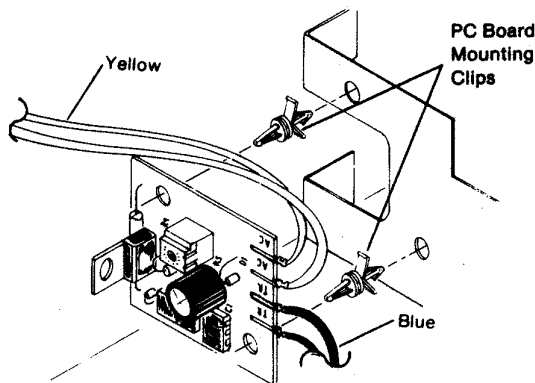
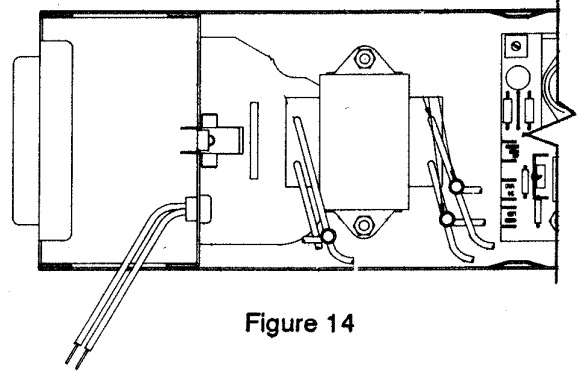

Figure 13
Figure 14
This electronic air cleaner has a **BUILT-IN AUTOMATIC AIR FLOW SENSOR**. The location of the air flow sensor is shown in Fig.13.
2. Wire unit to 120 volt, 60 Hertz, 1phase (or 240 volt, 50/60 Hertz, 1phase) supply. A field wiring compartment (with knock out holes) is located at the rear of the power pack assembly (Fig. 14). The electronic air flow sensor will automatically cycle your Electronic Air Cleaner with the blower system. The sensor is activated when the fan is on and air flow is present in the duct. It is pre-set at the factory and needs no adjustment (Fig. 13). Adjustment of the air flow sensor voids the warranty.
6. Remove the two (2) blue wires from the air flow sensor by carefully sliding the connectors from the board (See Figure 13).
11. Remove the two (2) yellow wires from the air flow sensor (See Fig. 13).
13. Double back the end of one (1) wire onto itself approximately 2" and tape with electrical tape.
3. Remove the two (2) blue leads from the air flow sensor. Refer to Figure 13. Connect the ends of the wires together to bypass the air flow sensor during the next service check.